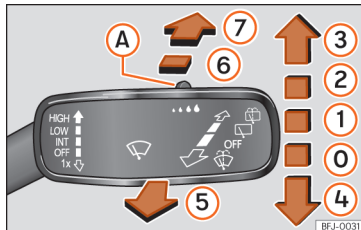

Fig. 47 Operating the windscreen wiper and rear wiper.
INT	Windscreen wipers interval wipe. Using the control »» Fig. 47 (A) adjust the interval (vehicles without rain sensor), or the sensitivity of the rain sensor.